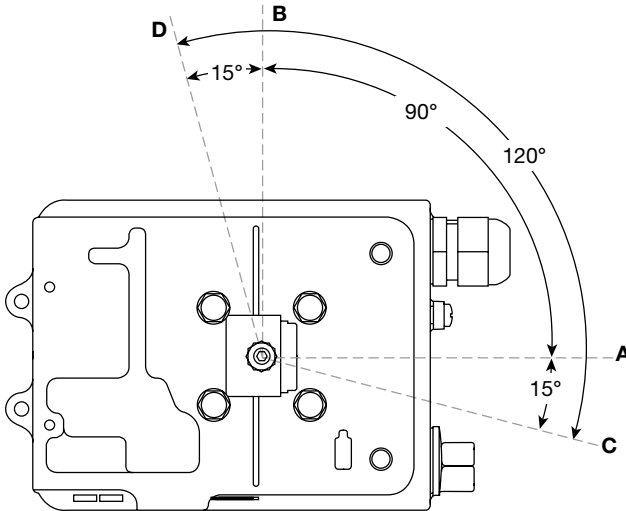

Fig. 23 View from the bottom of the positioner - Magnet orientation for clockwise actuator.
5.3.2 Adjust the magnet orientation as illustrated in Figures 23 and 24 and tighten the bolt to fix the magnet into position. There should be a distance of between 5 and 14 mm between the magnet and the positioner.
Refer to Figure 23 for actuator with clockwise rotation.